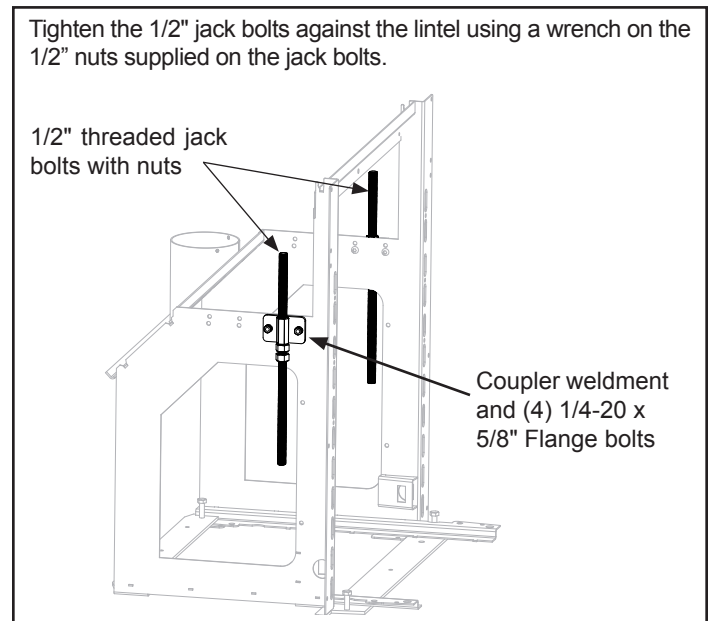

Figure 5.4 - Install jack bolts
Install the coupler nut weldments to the frame in the hole location that suits your needs with the (4) 1/4-20 x 5/8 flange screws and nuts and 1/2" jack bolts. Install the mounting frame into the opening and adjust these bolts to insure the frame is level, Figure 5.4.